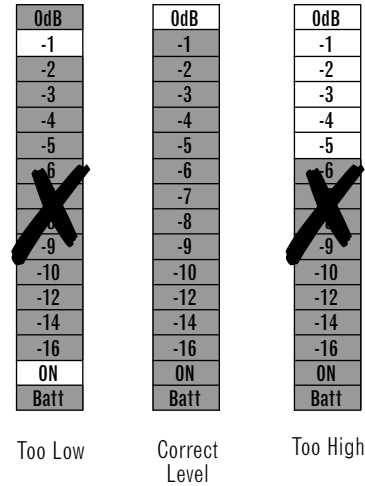

Figure 5. Adjusting the subwoofer levels for a 0dB peak
Press **Play ▶**. As Track 3 plays, watch the RSLM carefully. Watch for peak readings. The peak reading may be no more than a brief flash. Readjust the subwoofer's **Subwoofer-Level Control** ⑧ until the peak level observed is 0dB without triggering the over-range indication. See Figure 5.